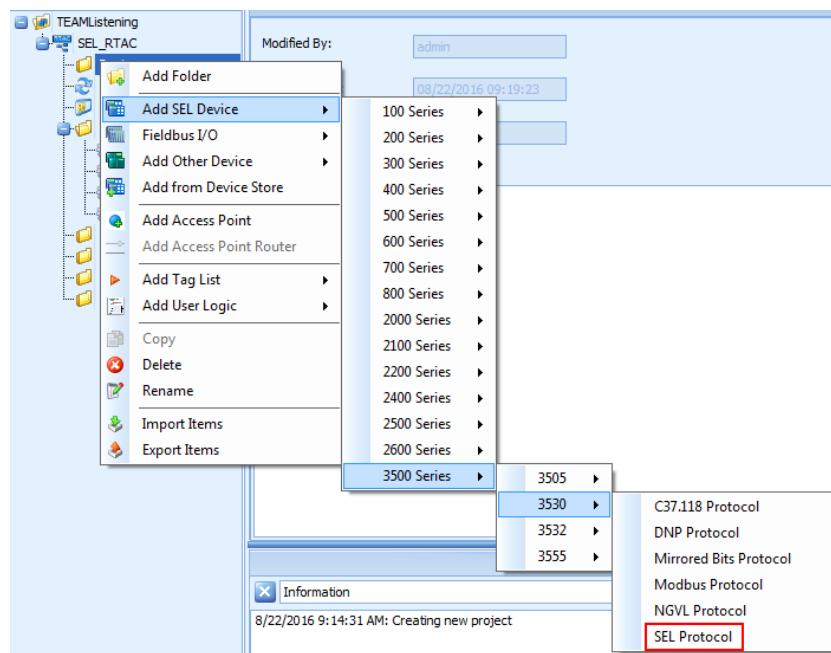

Figure 124 Add an RTAC
Step 2. Add a **3530** with **SEL Protocol**, as shown in *Figure 124*.